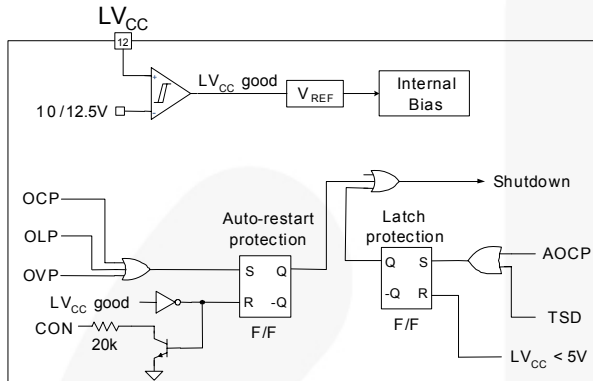

Figure 24. Protection Blocks
5. Protection Circuits: The FAN7621B has several self-protective functions, such as Overload Protection (OLP), Over-Current Protection (OCP), Abnormal Over-Current Protection (AOCP), Over-Voltage Protection (OVP), and Thermal Shutdown (TSD). OLP, OCP, and OVP are auto-restart mode protections; while AOCP and TSD are latch-mode protections, as shown in Figure 24.